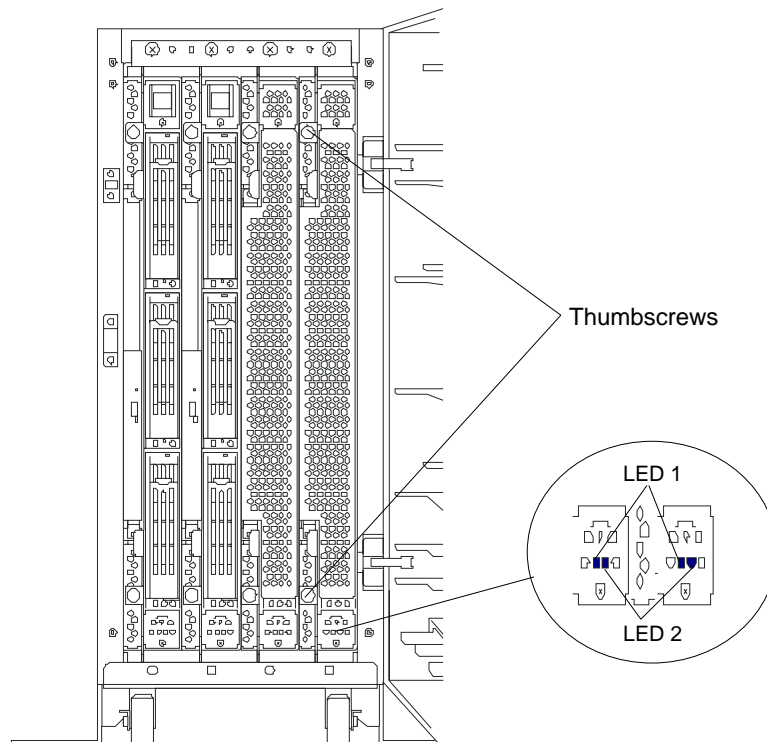

Figure 4-4. CPU Module Status LED Indicators
3. Ensure that the CPU module is off-line by viewing its status LED indicators (See Figure 4-4 and Table 1-3) The state of the status LEDs should be as follows:
4. Unscrew the thumbscrews securing the locking handle to the CPU module. See Figure 4-4.